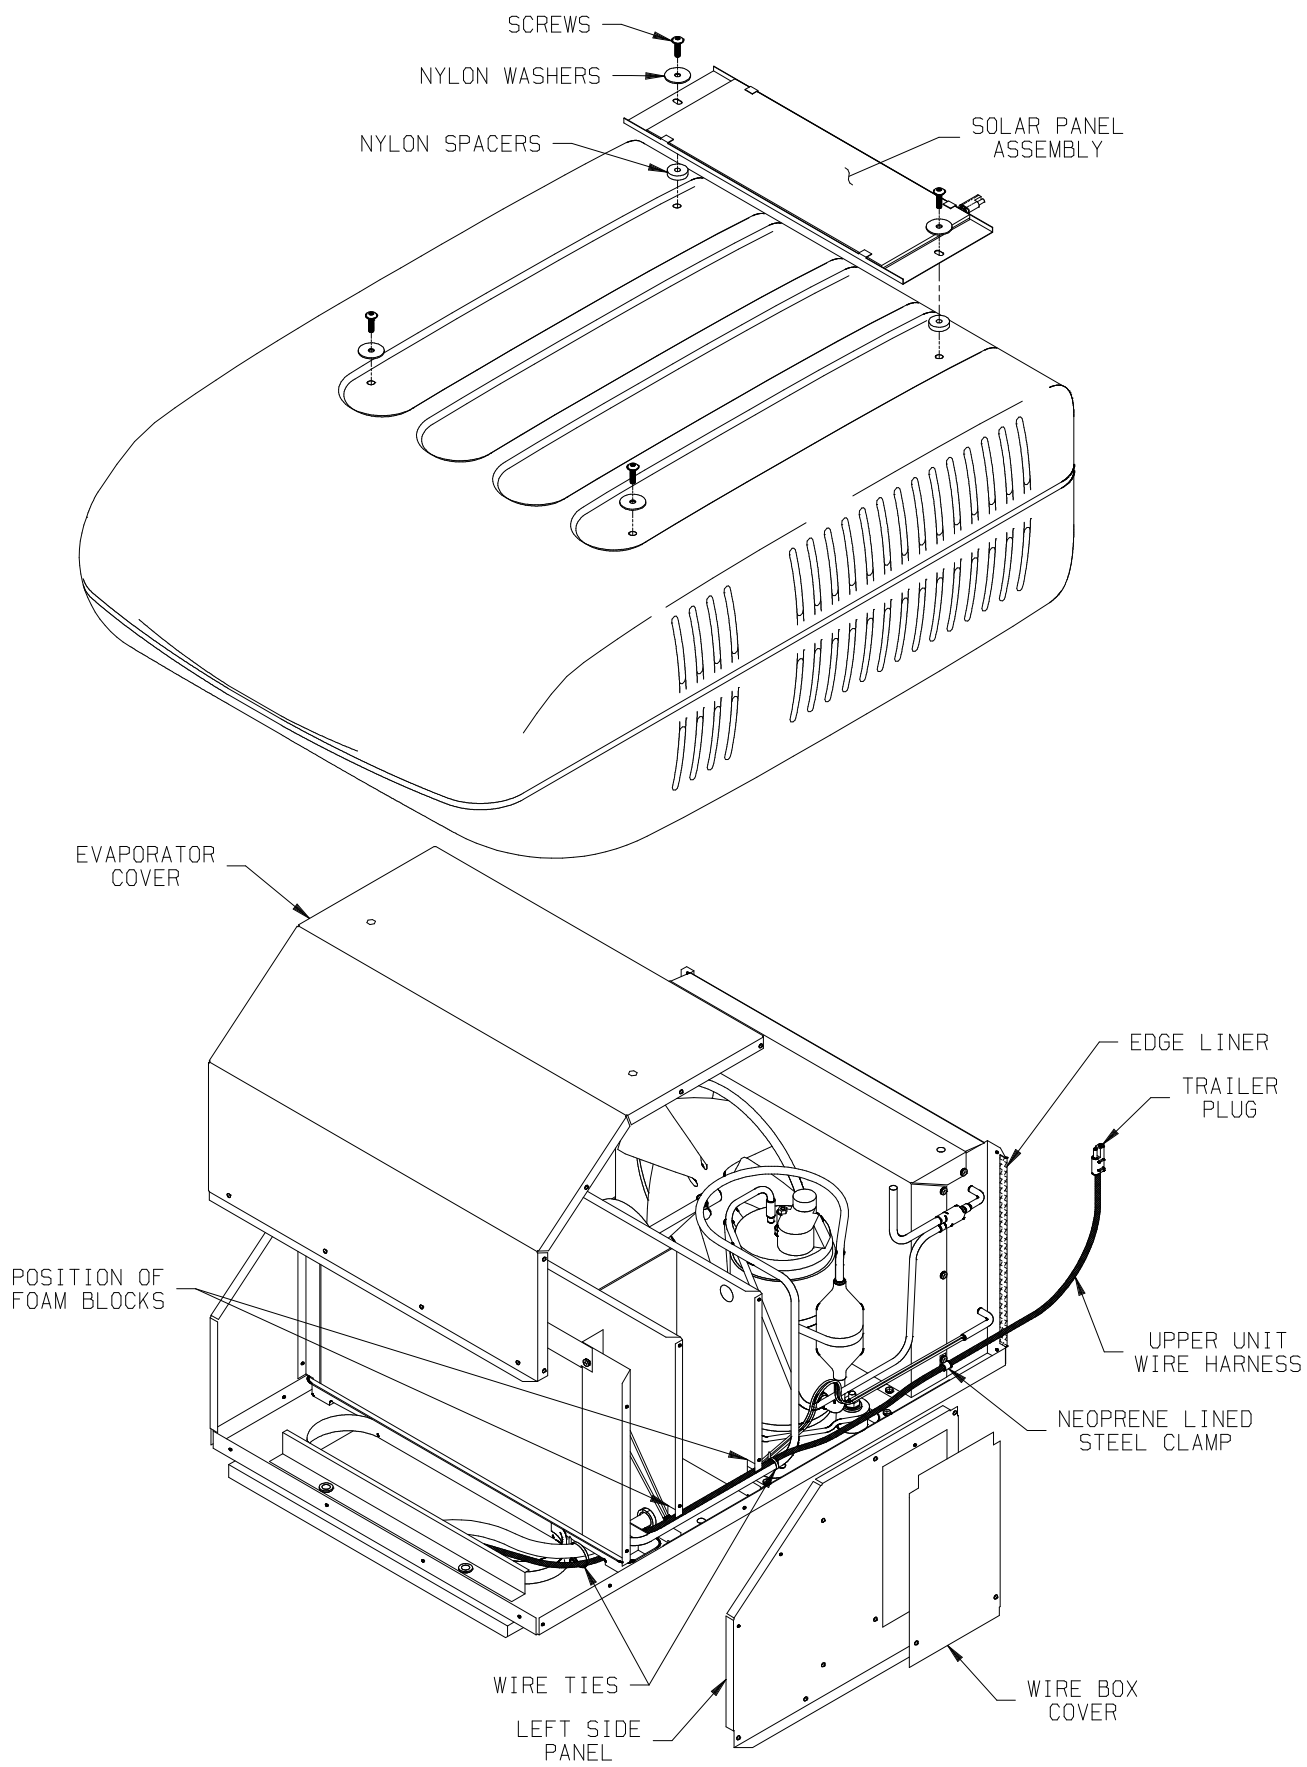

FIGURE 2
To install the solar panel and through-way wiring of this kit to the 7000, 8000 and 48000 series air conditioners, perform the following steps (refer to Figure 2).
4. Remove the left side panel and wire box cover (as shown in Figure 2) and set aside.
6. Attach the protective edge liner to the condenser flange by forcing the liner onto the metal edge as shown in Figure 2. Insure that the edge liner is securely installed. Cut off any excess edge liner length which may extend beyond the condenser header plate. Use a diagonal cutter for this purpose as the edge liner contains spring steel sections.
7. Route the solar harness along the liquid line and capillary tube(s) and through the foam blocks as shown in Figure 2. Secure the solar harness to the large refrigeration line (suction line) using a wire tie found in this kit. It may be necessary to remove and reinstall the foam blocks in order to route the solar harness through the blocks.
10. Before reinstalling the shroud, position the trailer plug and solar harness outboard of the condenser coil so that it may be routed through the condenser air inlet of the shroud as the shroud is being reinstalled (See Figure 2). The harness will be trapped between the shroud foam blocks and the edge liner after installation.
11. Position the nylon spacers and the solar panel assembly as shown in Figure 2 and assemble to the roof top air conditioner unit with the stainless steel screws and nylon washers previously removed in Step 2.